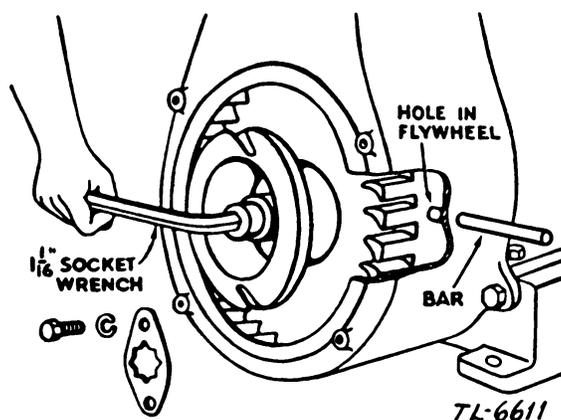

FIGURE 14. Removing flywheel.
a. Removing flywheel (fig. 14). The flywheel is securely mounted to the crankshaft by means of a taper fit, a soft key, a right-hand threaded nut, and a nut lock. Place a rod or punch through the $\frac{3}{8}$ -inch hole in the